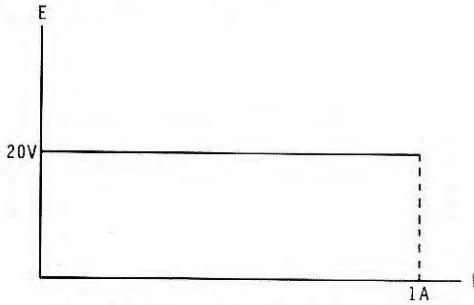

Figure 5
NOTE: Figures 5, 7, 8 and 9 depict voltage-current relationships. Voltage is shown on the vertical scale and current is shown on the horizontal scale.
- () Turn the VOLTAGE control clockwise until the meter reads 20 on the lower scale (Figure 5).